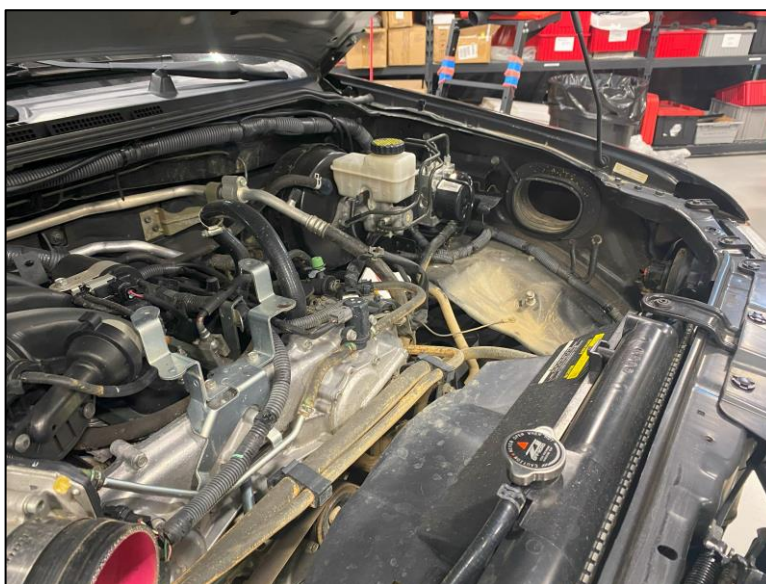

Figure 2
4. Remove your Z1 Intake Tube and Intake Airbox. *Figure 2.*